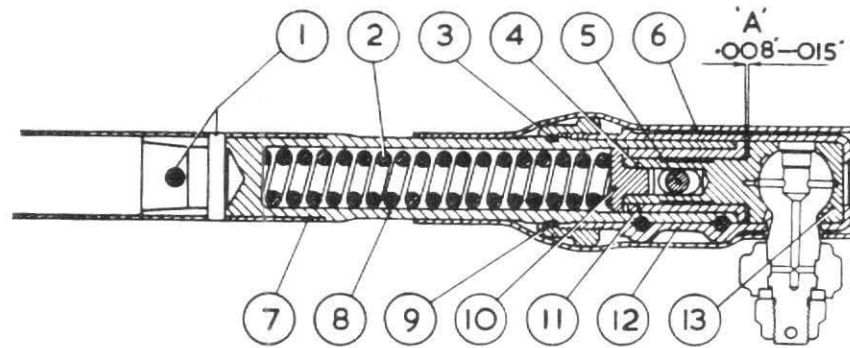

FIG. 1. SECTION THROUGH CROSS STEERING TUBE JOINT.
- (ii) Slacken off the steering joint nut (9, Fig.1), of the original tube from one to two flats and remove the two clamping bolts from the end of the tube and then carefully remove the tapered cotter pin (5) situated between the clamping bolts.
- (iii) Unscrew the steering joint nut from the sleeve (12) and remove all parts from the end of the tube taking care to note the position of any packing washers (shims) that may be found to be fitted. Slide or lightly tap the steering joint nut down the tube which will expose the retaining ring (3) fitted beneath it. Remove the retaining ring and the nut. Repeat for the opposite side of the tube. Keep right-hand and left-hand parts removed in separate containers and thoroughly clean all parts.
- (iv) The next operation is to assemble all the parts removed (with the exception of the cotter pins) from the original tube to the new tube and loose end piece in order to set a gap of .008" to .015", (as shown at point 'A' Fig.1), at each end of the tube as described below and then drill and ream the tube to take the tapered cotter pins also described below.
- a) Place one of the steering joint nuts (9) on the tube or the loose end piece and then fit the retaining ring (3) in the groove provided.
- b) Place the spring (2) into the tube and assemble to the tube the remainder of the parts (including any packing washer/s should they have originally been fitted) in their proper sequence (See Fig.1) including the ball pin.
With the outer ball pad (13) in position in the sleeve, slide the sleeve into position on the tube. Engage the threads of the steering joint nut with those of the sleeve and screw up the nut until there is a gap of .008" to .015" at point 'A' Fig.1 i.e., between the rear face of the inner ball pad (4) and the corresponding face of the steel bush (11) into which the ball pad is fitted. This clearance is necessary so that the spring can operate freely. Having obtained the correct gap, then fit the two clamping bolts in position and tighten up the nuts but do not split pin them at this stage. The heads of the bolts must be fitted in the location provided on the sleeve.